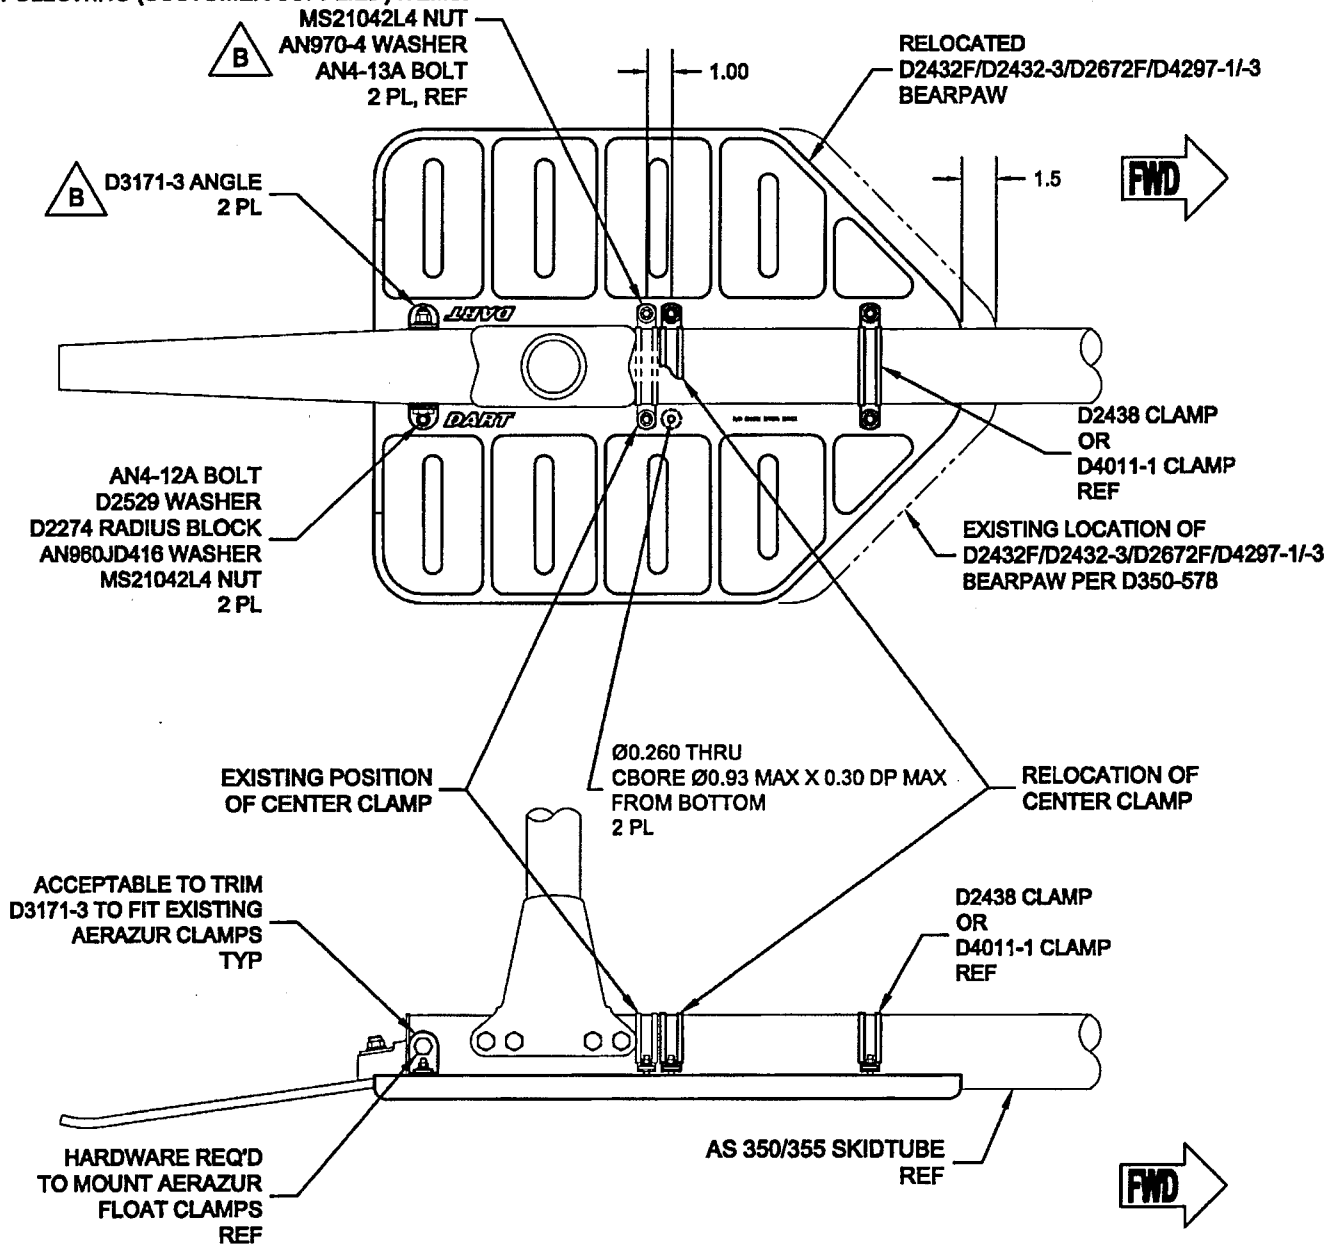

FIGURE 1: INSTALL MOD
To ensure compatibility between the D350-578-011/-013/-015/-017/-021 Bearpaw Installation and existing Aerazur Float System, customers are encouraged to procure DSI 9506-011 Installation Mod Kit listed below and perform the following deviations on installation. Refer to Figure 1.
4. If installing/re-installing D350-578-031 Wearplate Kit, replace center clamp hardware per Figure 1. Note: Hardware listed is customer supplied.